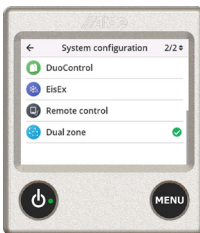

Fig. 5, 2 zone
- Go to the last page of “System configuration”. (Fig. 5)